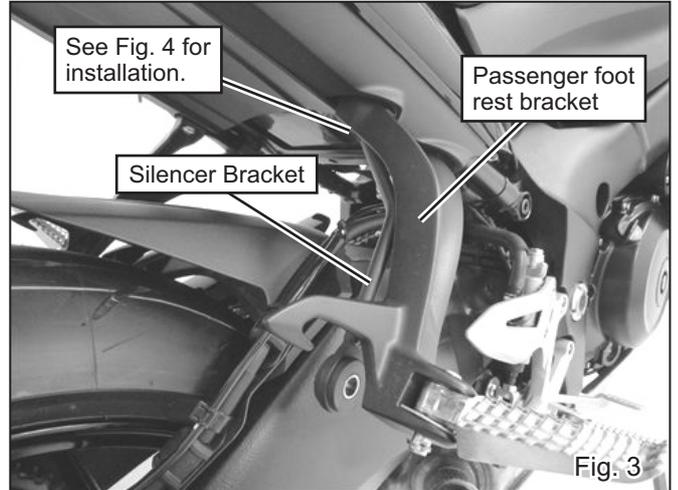

Fig. 3
- 5) Remove right side stock passenger foot rest bracket once. Then, mount Silencer Bracket and removed foot rest bracket together with 2 of Cap Bolt M8x30 (See Fig. 3 & 4). Tighten and torque Cap Bolt M8x30.